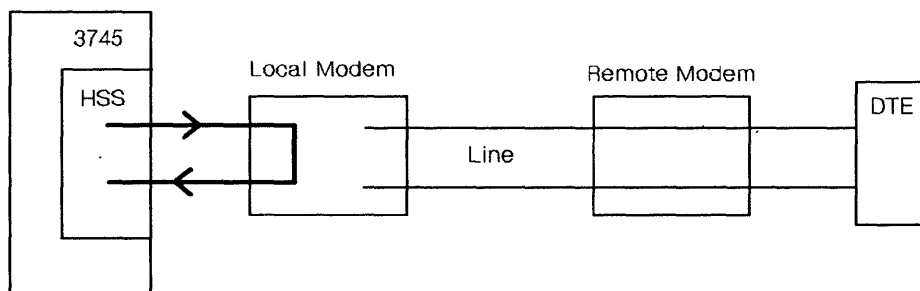

Figure 22-11. Local Modem Wrap Test (HSS)
- Local V.35 modem (Figure 22-11 on page 22-9)